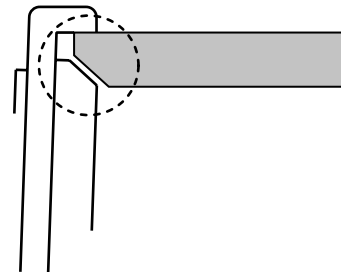

Fig. 1.19
- When installing as an Inset Sink, a chamfer in the underside of the worktop may be required for the overflow body **(Fig. 1.19)**.